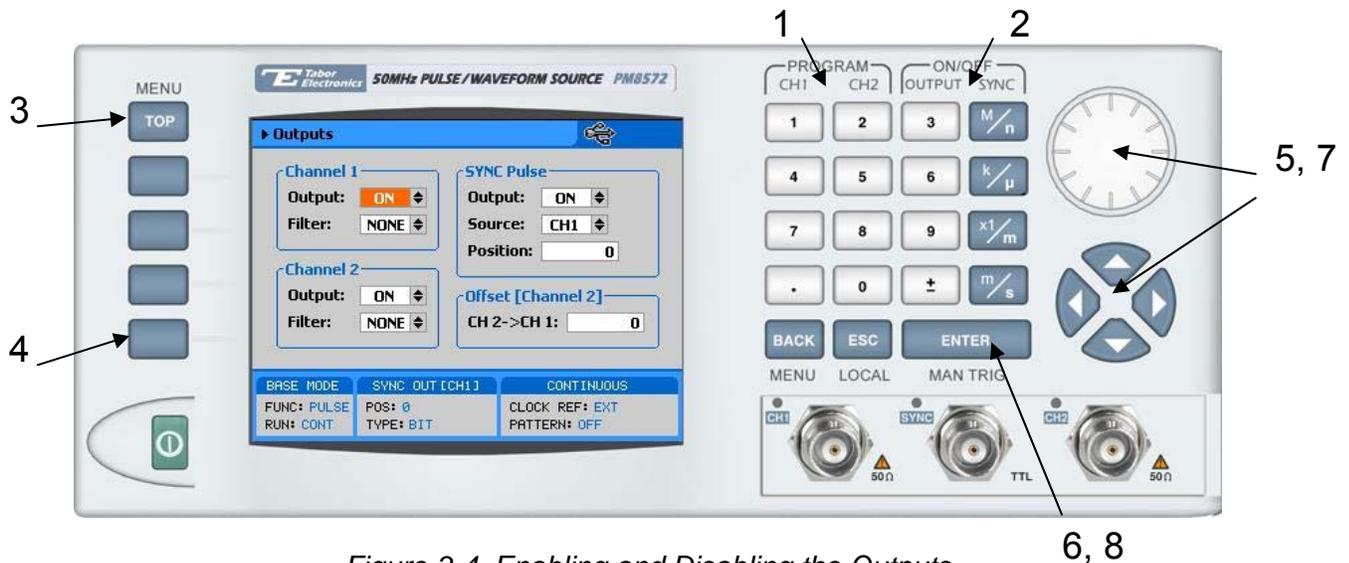

Figure 3-4, Enabling and Disabling the Outputs
For safety reasons, main outputs default setting is OFF. The outputs can be turned on and off using either the hot keys, or the Output Menu. Observe Figure 3-4 and disable or enable the main outputs using the procedure below. The same procedure can be used for enabling and disabling the SYNC output. The numbers on Figure 3-4 correspond to the procedure steps in the following description.
4. Press Outputs to open the Outputs dialog box as shown in Figure 3-4